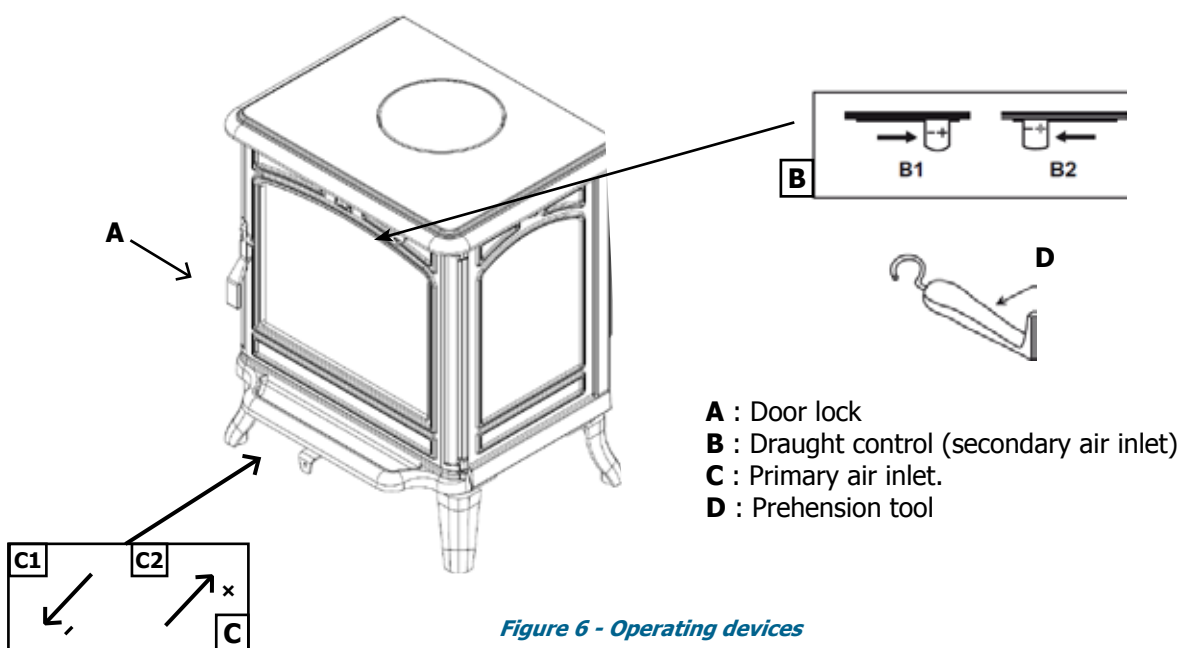

Figure 6 - Operating devices
(Figure 6)
3.3.1. Lighting (Figure 6)
- Ensure that the fuel retainer is installed correctly (fig. 6).